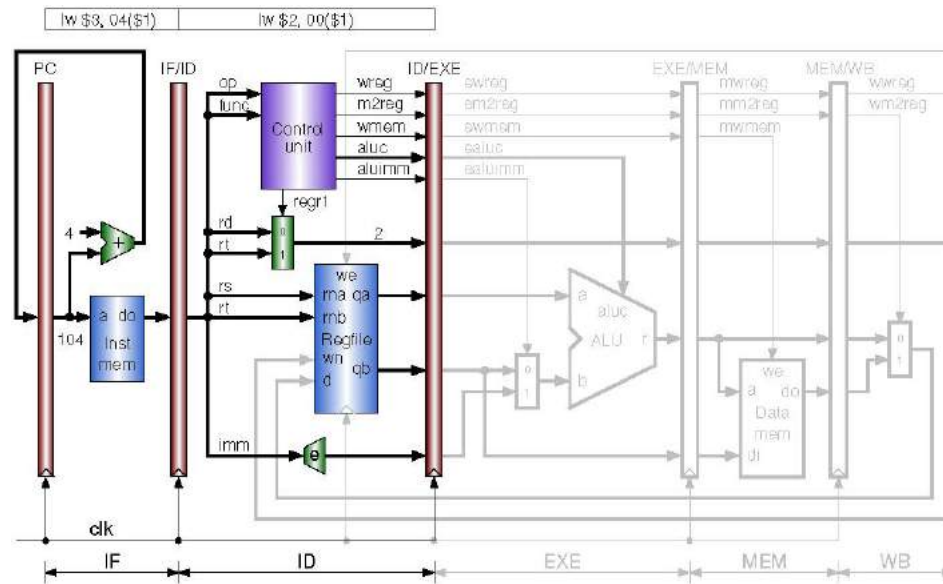

Figure 2 Pipeline instruction decode (ID) stage
The circuit in the IF stage are shown in Figure 2. Also, looking at the first clock cycle in Figure 1(b), the first lw instruction is being fetched. In the IF stage, there is an instruction memory module and an adder between two pipeline registers. The left most pipeline register is the PC; it holds 100. In the end of the first cycle (at the rising edge of clk), the instruction fetched from instruction memory is written into the IF/ID register. Meanwhile, the output of the adder ($PC + 4$, the next PC) is written into PC.
7. Write a Verilog code that implement the following instructions using the design shown in Figure 2 and Figure 3. Write a Verilog test bench to verify your code: (You have to show all the signals written into the IF/ID register and the ID/EXE register in your simulation outputs)